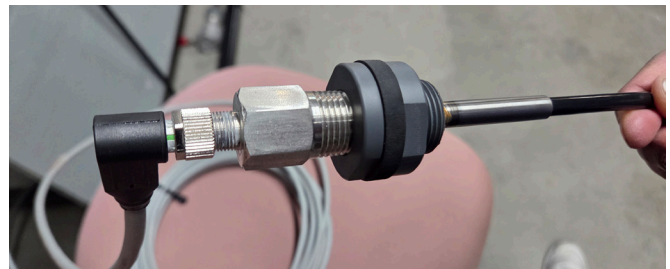

Figure 5: Connected Probe, Loose Thread
Line up the key (1a) with the key slot (1b), and the other prongs should align with the connector slots. **DO NOT PUSH OR FORCE THE PROBE AND CABLE TOGETHER.** Once probe and sensor cable are connected, they should look like **Figure 5**.